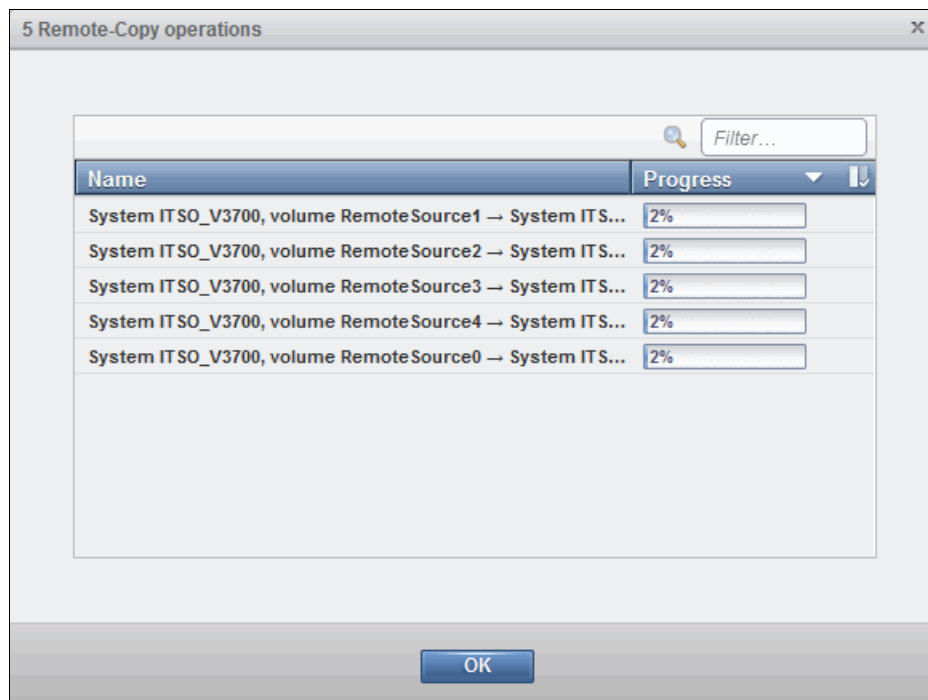

Figure 10-108 Running task expanded to show the percentage complete of each copy operation
11. Highlight one of the operations and click to see the progress, as shown in Figure 10-108.